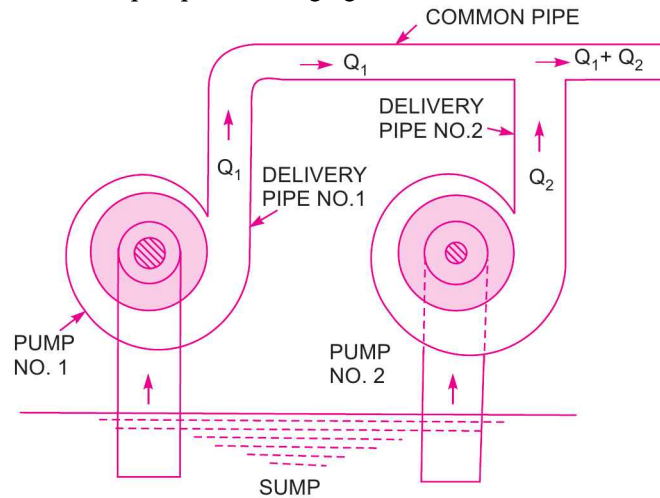

Fig. 19.13 Pumps in parallel.
19.6.2 Multistage Centrifugal Pumps for High Discharge. For obtaining high discharge, the pumps should be connected in parallel as shown in Fig. 19.13. Each of the pumps lifts the water from a common pump and discharges water to a common pipe to which the delivery pipes of each pump is connected. Each of the pump is working against the same head.